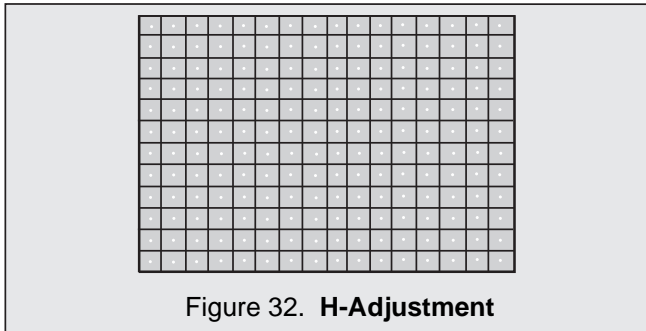

Figure 32. H-Adjustment
1. If horizontal linearity is poor, in Serviceman Mode, adjust data "H LIN" (See Fig. 32)